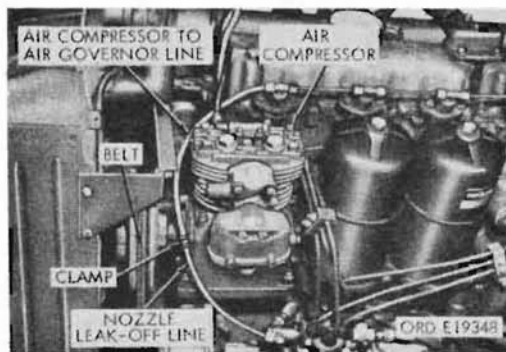
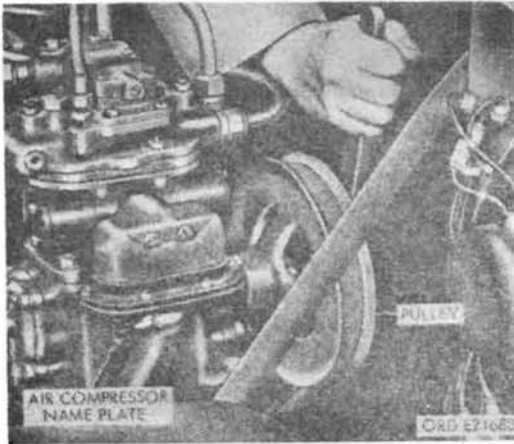

Figure 238. Air compressor - air cooled
Figure 241. Adjusting air compressor drive belt
- (1) Check that the belt does not have more than 1/2-inch deflection midway between the drive and driven pulleys.
- (2) Loosen the setscrew on the inside of pulley hub. Using the correct air compressor adjusting tool (refer to Table 1), turn the flange in or out on the threaded hub until the desired belt tension is obtained (fig. 241). Turning flange in tightens the belt, turning flange out loosens the belt.
- (3) Turn flange slightly until hub setscrew aligns with a groove cut in the flange, and tighten the setscrew.
- (4) Install radiator (par. 85).
a. Air-cooled (Fig. 238).(1) Removal.